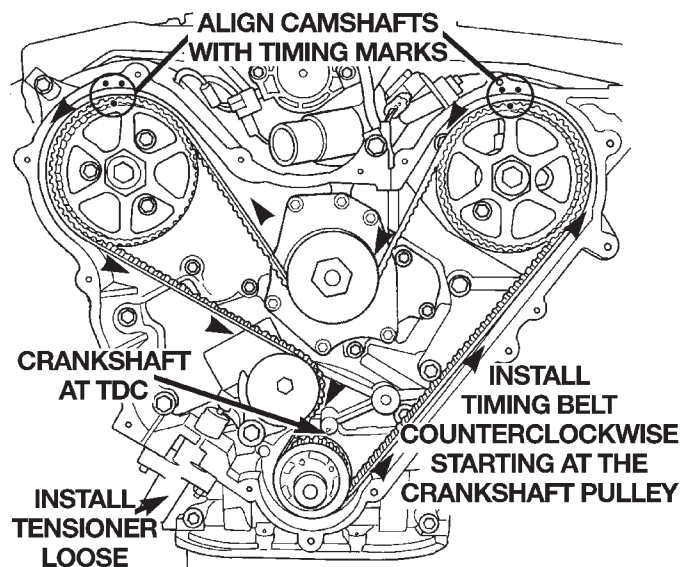

Fig. 52 Timing Belt—Installation
(6) Install the timing belt starting at the crankshaft sprocket going in a counterclockwise direction (Fig. 52). Install the belt around the last sprocket. Maintain tension on the belt as it is positioned around the tensioner pulley. Each camshaft sprockets mark should still fall between the cover marks.